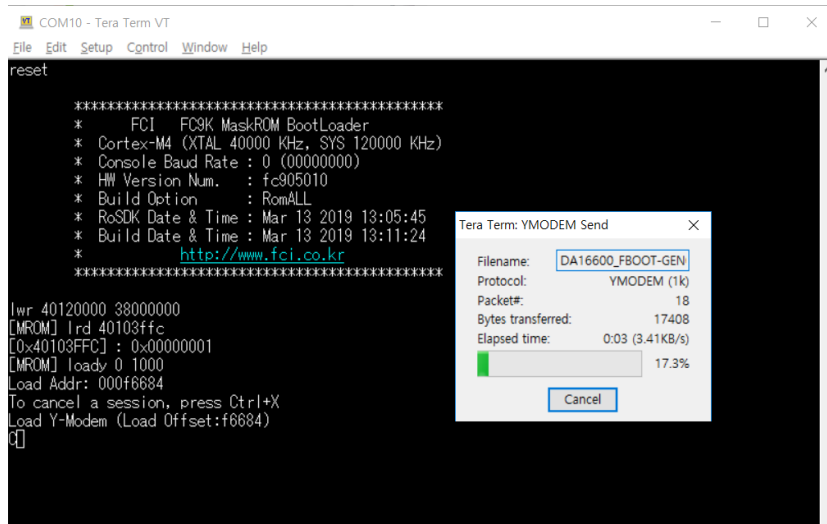

Figure 25: Download bootloader
- When opening the MACRO file, the DA16600 will reset, and the BOOT firmware image is downloaded (see Figure 25).